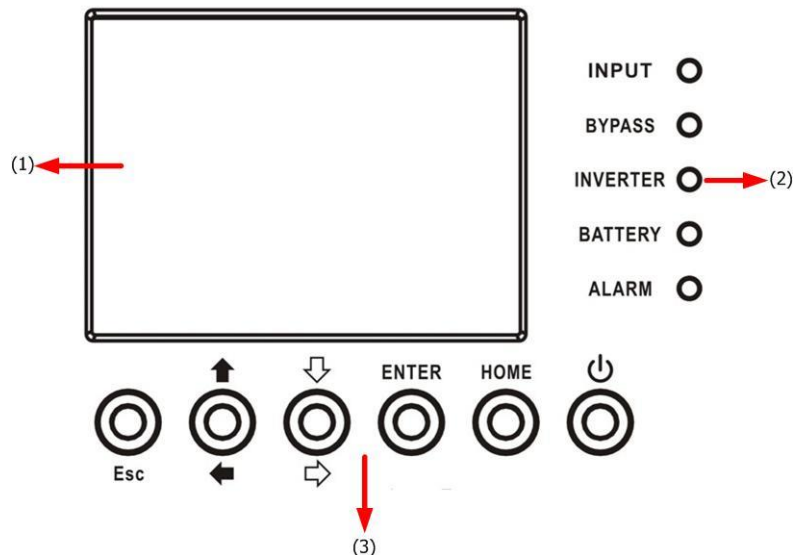

Figure 4-1 Control panel
This control panel and display description are located on the front door of the UPS. It is the USER control, monitoring of all measured parameters, UPS and battery status and alarms. The control panel and display description are divided into four functional areas: (1) LCD display, (2) LED indications, (3) Control keys, (4) Audio Alarm, as shown in Figure 4-1.